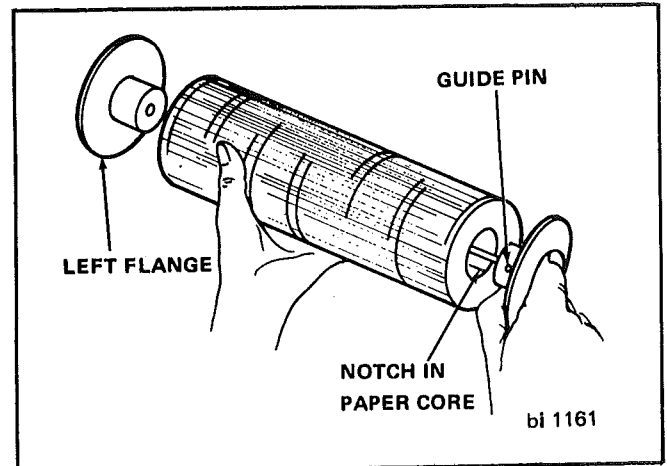

FIGURE 5-2 CHANGING CHART PAPER
3. Unscrew right flange from paper supply roll. Remove and discard core (Figure 5-2).